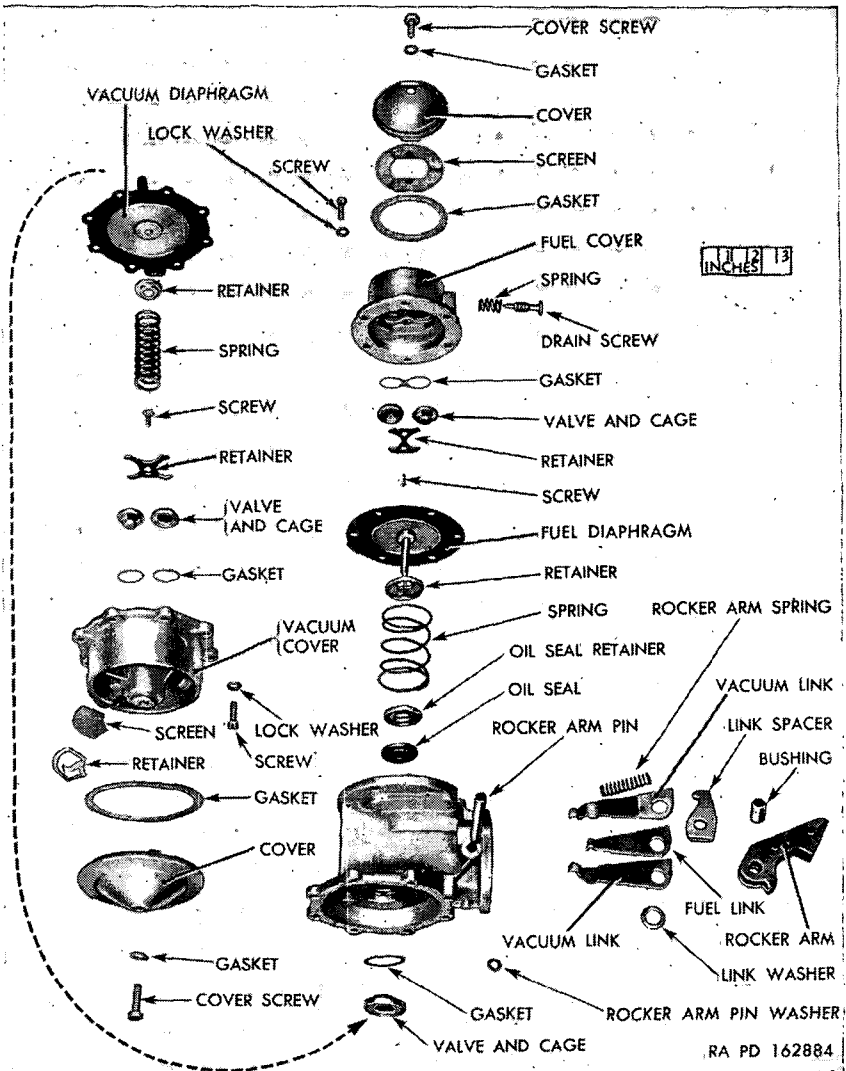

Figure 58. Fuel and vacuum pump—disassembled view (typical series CF construction).
(fig. 58)
a. Assemble Body (fig. 58).
- (1) Assemble link spacer over fuel link. Place one vacuum link on each side of the fuel link. The hook ends of the vacuum links must come together so they surround the fuel link. All link hooks should point in the same direction. Place assembly of links and spacer between lobes of rocker arm with one spacer washer to the outer side of each vacuum link. Slide rocker arm bushing through holes in rocker arm, spacer washers, and links.
- (2) Stand the pump body on the bench, fuel flange down. Set rocker arm spring in position with one end over cone cast into the body. Slide rocker arm and link assembly into body. Outer end of rocker arm spring slips over projection on link spacer; the open end of all link hooks must point toward vacuum flange. Aline rocker arm bushing hole with hole in body and retain assembly by driving rocker arm pin through body and bushing. Place washer over small end of pin and retain by spreading end of pin.
- (3) Soak fuel diaphragm in clean kerosene. Fuel oil may be used, but do not use shellac or sealing compound. Place spacer in pull rod well of body casting. Set the diaphragm spring on the spacer and the spring retainer on top of the spring, dish side down. Hook diaphragm pull rod to center fuel link.